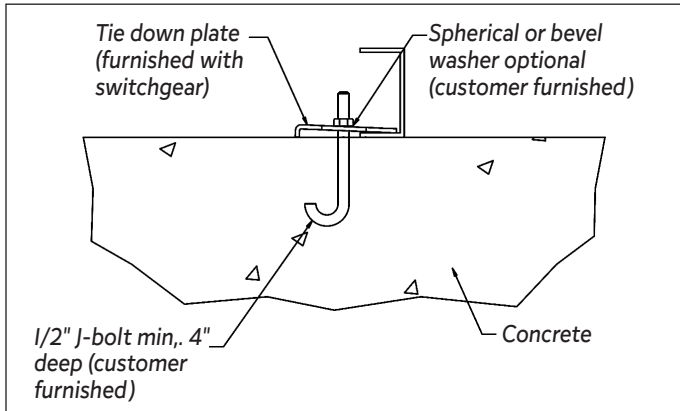

Figure 3b. Anchor Bolt Detail.
Step 5 - Following the correct concept in Figure 4, level the base, using metal shims as required. Secure each bay to the pad with the anchor clips ("hold down plates") provided, (see Figure 3a and Figure 3b) by tightening the anchor-bolt nuts.